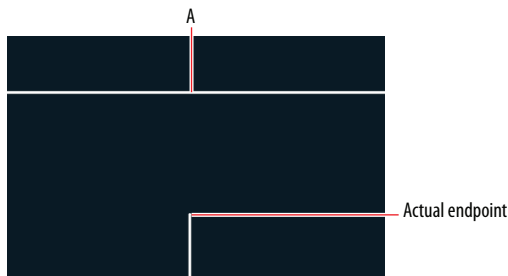

FIGURE 3.10 Zooming in reveals that the lines do not meet.
2. Press **Z** and then **Enter**. Click two points to define a tightly cropped zoom window around point A. Zoom in again if necessary until you can see that the endpoint of the line you just drew is not on the horizontal line (see Figure 3.10). No matter how carefully you clicked point A in the previous step, the line you drew will not be on the edge (it will either fall short of it or overshoot it).